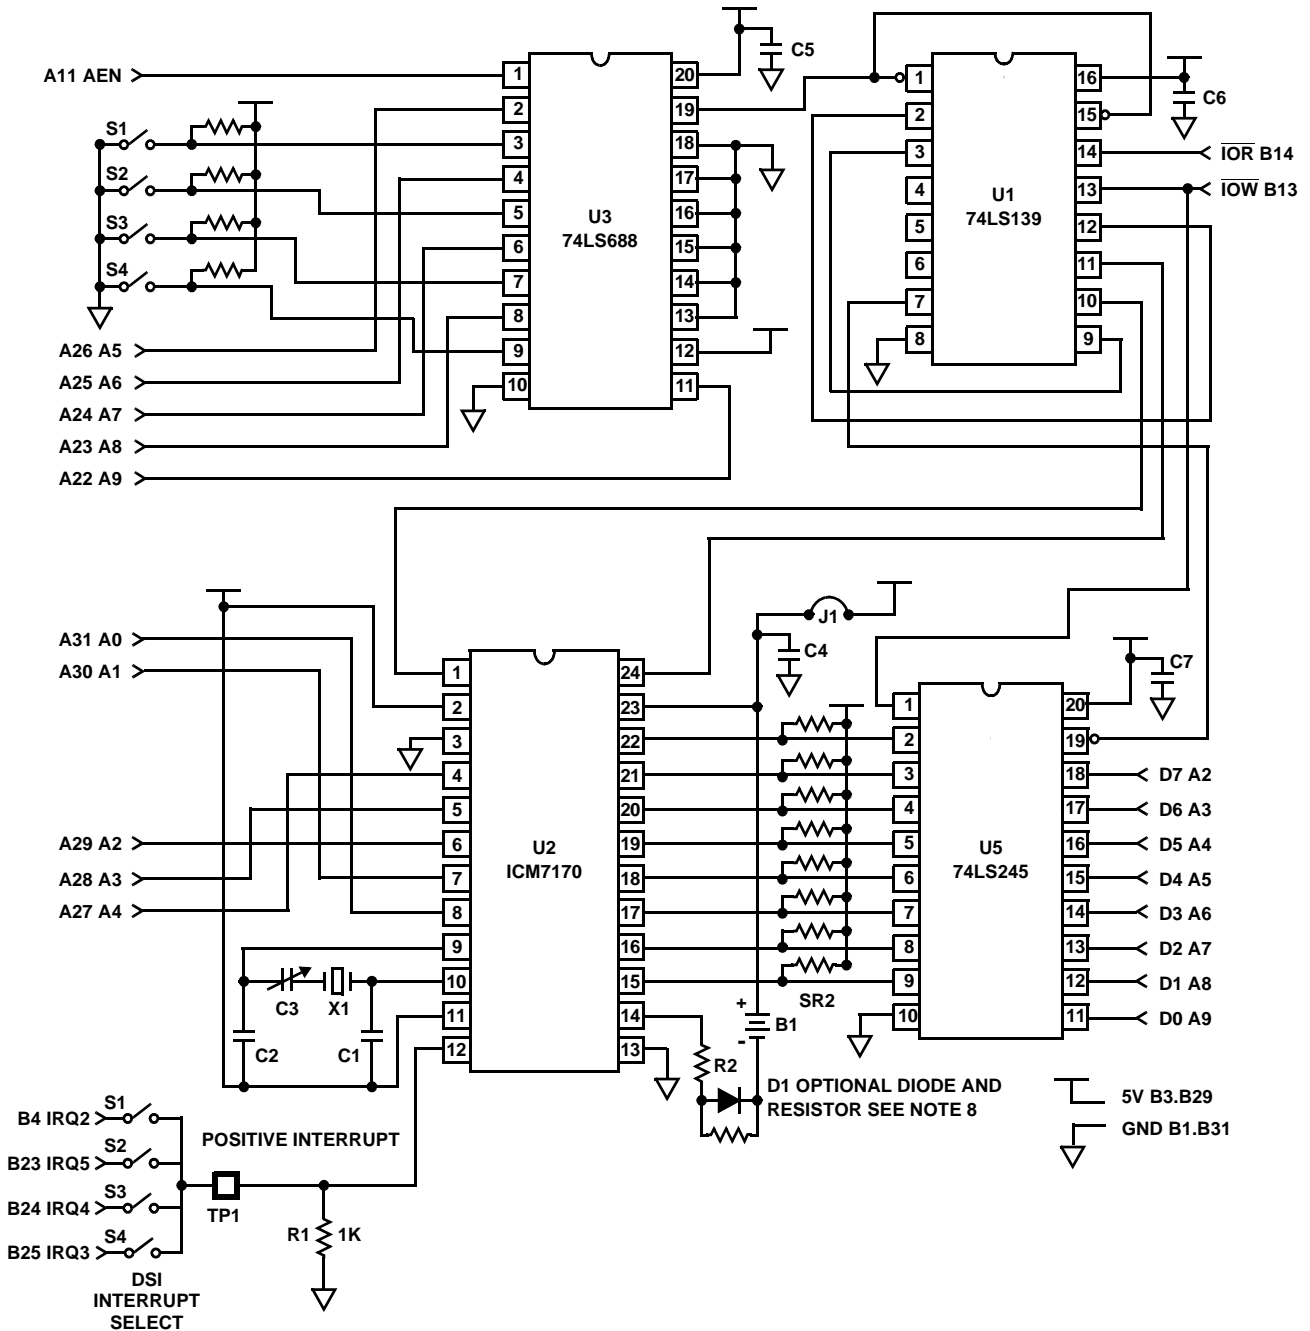

FIGURE 9. IBM PC INTERFACE FOR ICM7170Y
Figure 9 shows the schematic of a board that has been designed to plug into an IBM PC/XT (Note 1) or compatible computer. In this example \overline{CS} is permanently tied low and access to the chip is controlled by the \overline{RD} and \overline{WR} pins. These signals are generated by U1, which gates the IBM's \overline{IOR} and \overline{IOW} with a device select signal from U3, which is
8. V_{BACKUP} DIODE - Lithium batteries may explode if charged or if discharged at too high a rate. These conditions could occur if the battery was installed backwards or in the case of a gross component failure. A 1N914-type diode placed in series with the battery as shown in Figure 9 will prevent this from occurring. A resistor of 2M Ω or so should parallel the diode to keep the V_{BACKUP} terminal from drifting toward the V_{SS} terminal and shutting off ICM7170 I/O during normal operation.